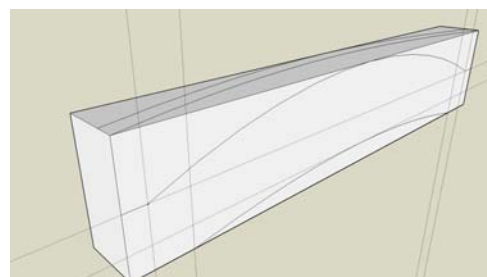

Figure 3. “Block of Wood” with profile layout drawn on face and bend layout drawn on top..
3. Draw the desired arc on the top of the “block”. (It is easier and more accurate to do this in parallel projection using Top View.) Make a copy of the arc and locate it so that the two arcs are $\frac{1}{4}$ " apart (or whatever thickness you want for the slat). The rear arc should just touch the back of the block. The result should look like a block of wood ready to be cut out on a bandsaw (Figure 3).